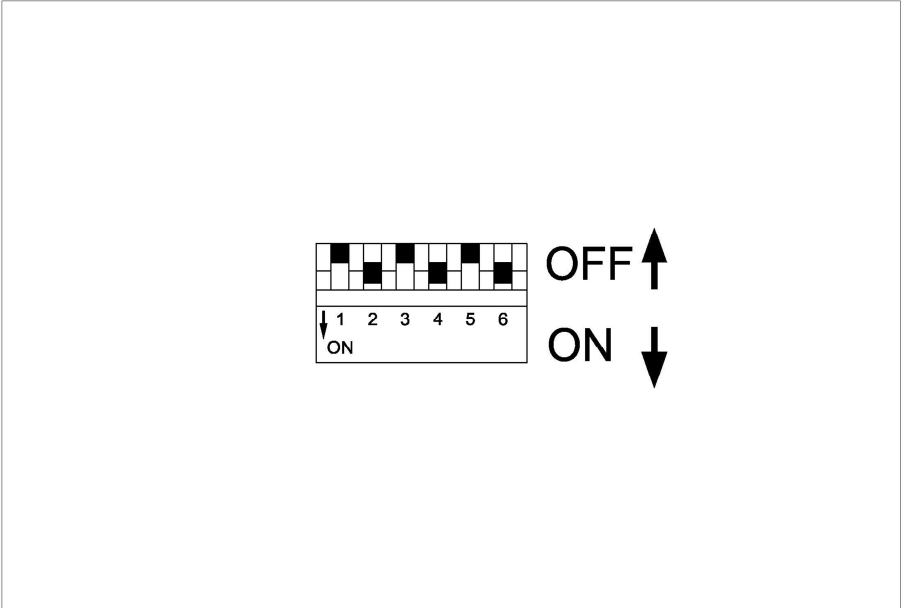

Figure 17 Switch
3. Switch field S1 for the selection of the charging voltage, charging time limitation and power supply mode (see also Figure 17 Switch, Page. 12)